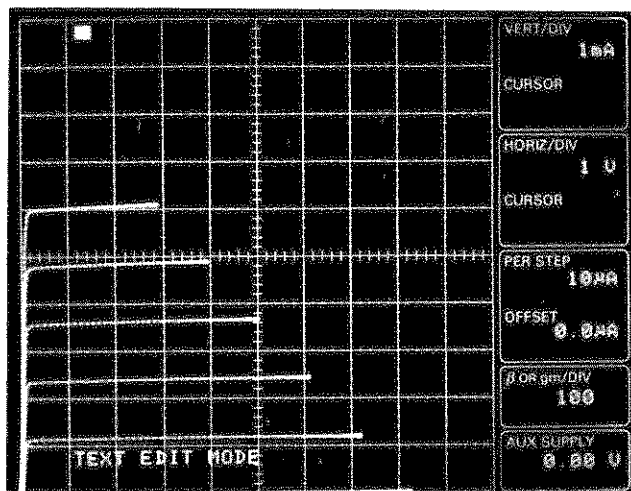

Figure 3-16. Text edit mode.
73. To add text to the stored curves or the front panel settings, simultaneously press ENTER and FAST/SHIFT to enter the text edit mode. A "TEXT EDIT MODE" message is displayed in the ERROR MESSAGE area of the crt and the EDIT CURSOR is displayed at the TEXT area (top) of the crt. In this mode, use the VERTICAL control to select the characters, and the HORIZ control to position the EDIT CURSOR. Press both ENTER and FAST/SHIFT to exit the Text Edit Mode. Press ENTER or SAVE to store the text. Figure 3-16 shows the TEXT EDIT MODE.